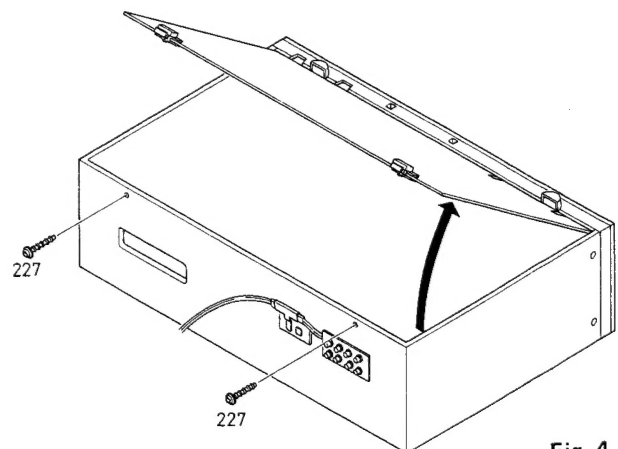

Fig. 4
4. Turn over the set, remove two screws 227 (WH 3 x 20) which are fixing cabinet (3) and bottom lid (83) together, and, holding bracket stand (84), push up the back cover to remove it. (See Fig. 4.)